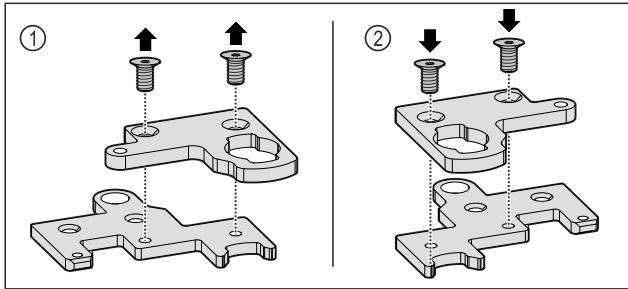

Fig. 34
- ▶ Disassemble the two-part hinge bracket. Fig. 34 (1)
- ▶ Reassemble the two-part hinge bracket rotated by 180°. Fig. 34 (2)